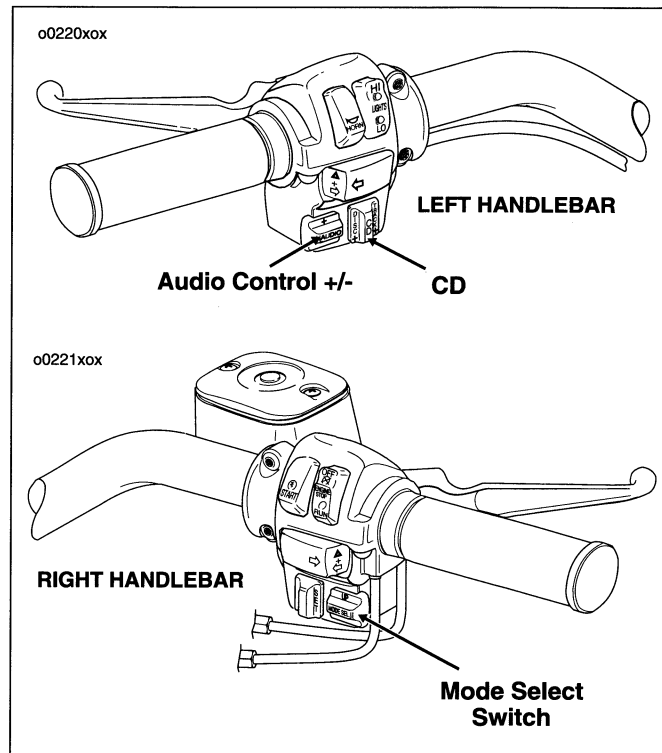

Figure 52. CD Changer Handlebar Controls
3. See Figure 52. Select "CD" on the receiver by pushing the MODE SEL switch on the right handlebar.
5. See Figure 52. Adjust the volume with the Audio Control Switch on the left handlebar switch assembly. Push the Audio Control Switch UP (+) to raise the volume, DOWN (-) to lower the volume. Volume level is displayed on the receiver display.